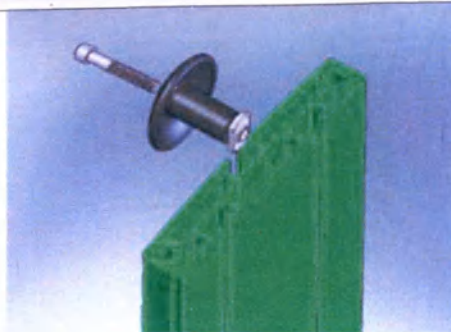

Рисунок 3
3. Turn the assembly over so the cart base is resting on the floor. Insert Socket Head Cap screw (8) through Knob (3) and thread T Nut Fastener (7) on loosely, see figure 3. Repeat for remaining three knobs.